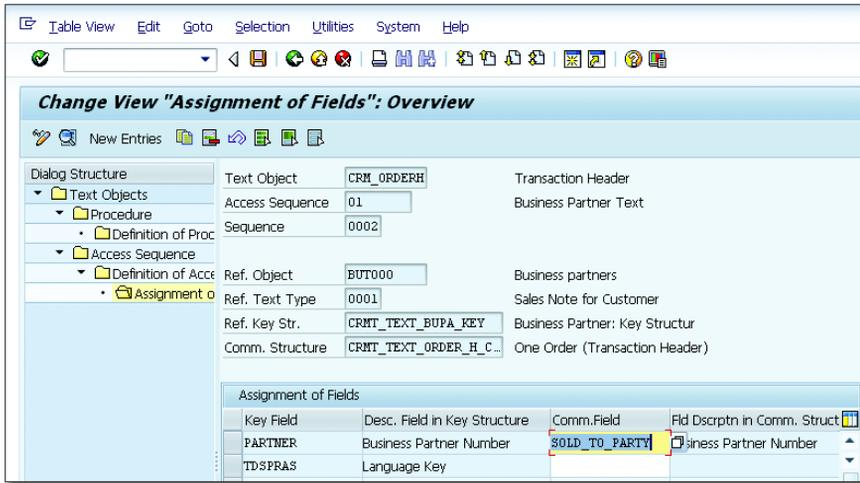

Figure 4.65 Access Sequence Field Assignments
- Assign the fields in the access sequence, as shown in Figure 4.65. The configuration shows the text being copied from the SOLD_TO_PARTY on the sales order.